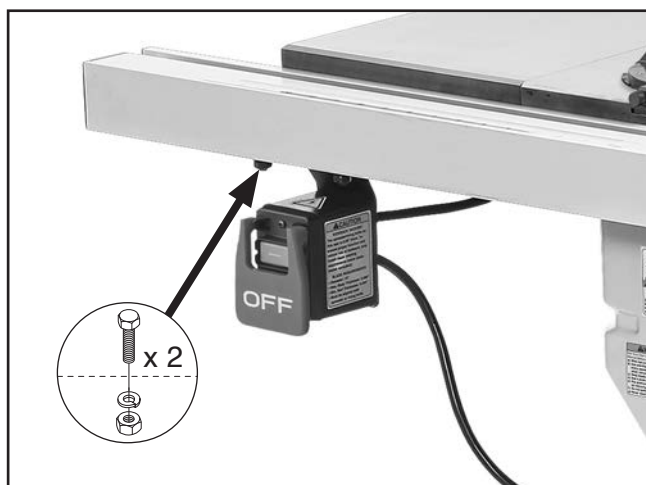

Figure 22. Location of ON/OFF switch fasteners.
6. Secure switch to hex bolts installed in **Step 5** using (2) 8mm lock washers and M8-1.25 hex nuts from G0771Z Inventory, as shown in **Figure 22**.